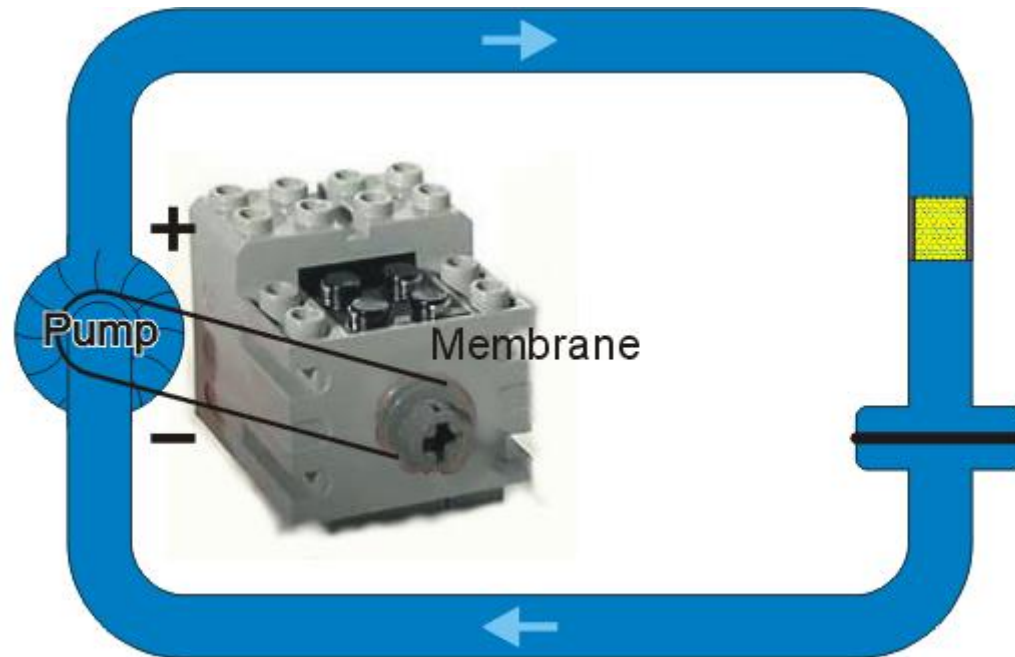

Fig 11: A sand filter in series with the membrane.
- Suppose we start with Figure 1 but put a sand filter in series with the membrane as is shown in **Fig.11**.